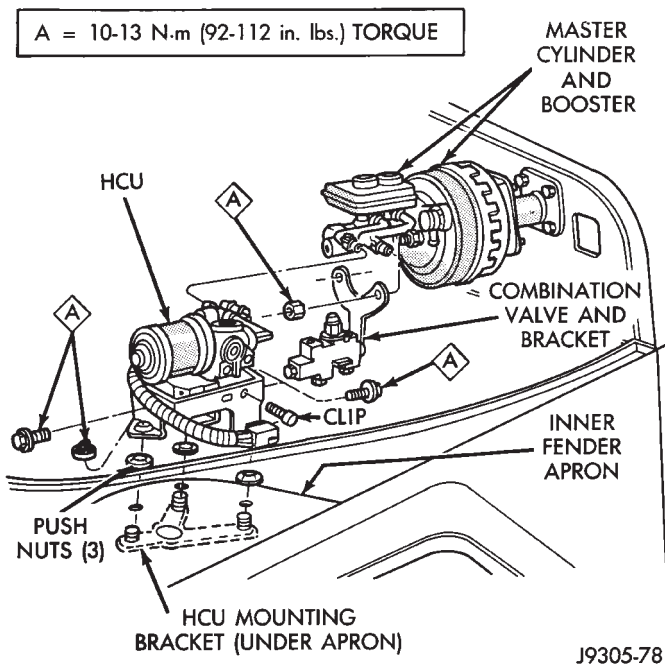

Fig. 19 HCU Mounting (YJ)
(1) Place shop towels or small container under master cylinder reservoir hoses.
(2) Disconnect master cylinder reservoir hoses at HCU.
(3) Disconnect all sensor and harness wires at HCU.
(4) Disconnect brakelines at HCU (Fig. 19). Mark or tag lines for installation reference.
(5) Remove bolt and nuts attaching HCU mounting bracket to fender apron and remove HCU.
- (1) Disconnect harness wires from combination valve switch.
- (2) Disconnect brakelines attached to combination valve.
- (3) Remove nuts attaching combination valve bracket to master cylinder mounting studs (Fig. 19).
- (4) Remove valve and bracket as assembly.
- (5) Start all brakelines in combination valve by hand. Tighten line fittings just enough to prevent leaks.
- (6) Position valve mounting bracket on studs.
- (7) Install and tighten nuts that attach combination valve bracket to studs on power brake booster.
- (8) Connect wires to combination valve switch.
- (9) Fill and bleed brake system.
- (10) Final-tighten brakeline fittings to 18-23 N·m (160-210 in. lbs.) torque after bleeding brakes.